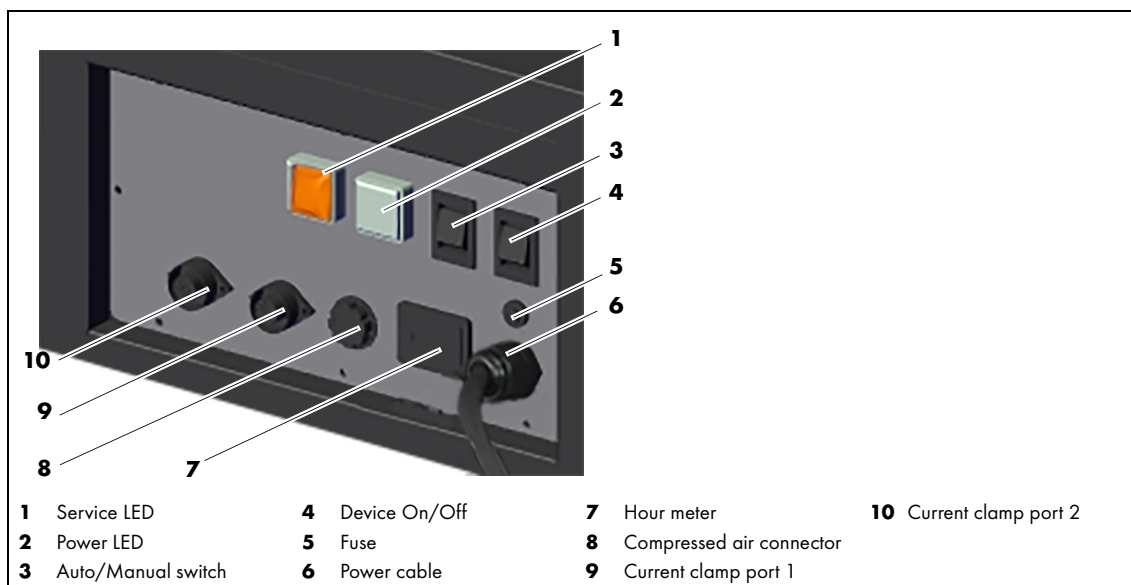

Fig. 5 Control elements/ports
⇒ Fig. 5 on page EN-13.
⇒ Fig. 5 Control elements/ports on page EN- 13
- 1 Use the device On/Off switch **(4)** to switch off the welding fume extraction system. (Fig. 5).
- 1** Use the device On/Off switch **(4)** to switch off the welding fume extraction system. (Fig. 5).